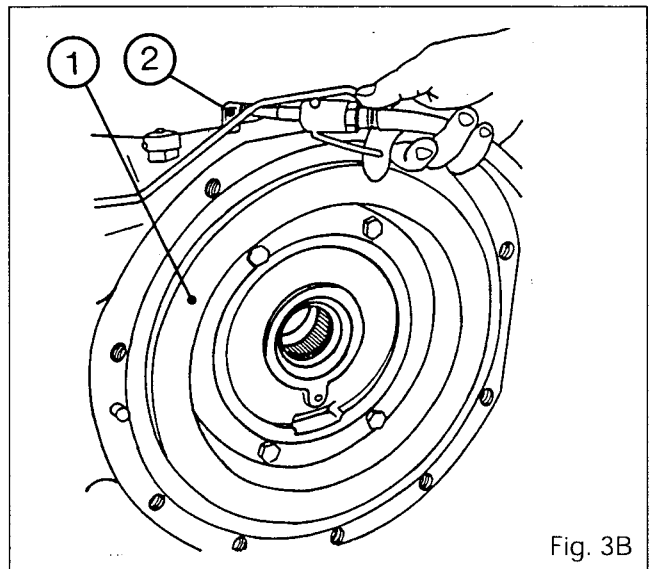
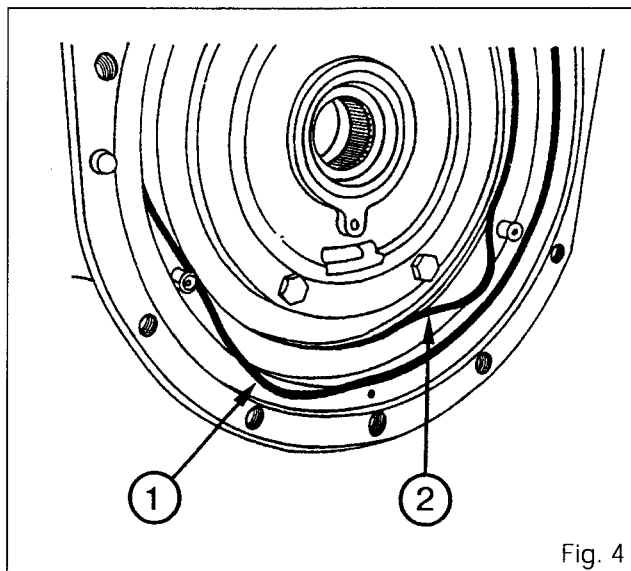

Fig. 3B
Fig. 4
5. As from serial number E275051, remove the bolts **(3)** (Fig. 3A) with a locally manufactured socket. Withdraw the piston **(1)** from the housing with a jet of compressed air applied to the connector **(2)** (Fig. 3B).
- Note : To facilitate access to the connector (2), if necessary, disconnect the economy 4-speed PTO control (if fitted) and rotate the. connector.**
6. Remove the O-rings **(1)** and **(2)** on the centre housing and discard them (fig. 4).